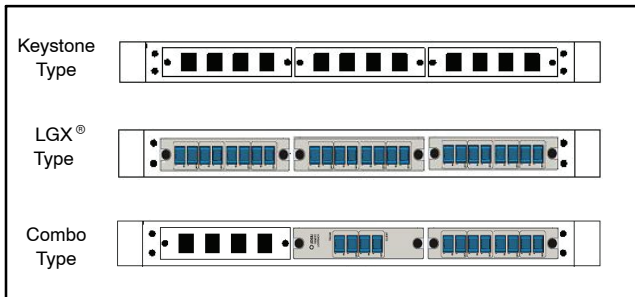

Figure 2. Various VEUP-30 Adapter Panel Configurations
The VirtualEdge (VE) VEUP-30 is a universal, LGX-compatible, interface panel used at the CPE point of demarcation. It comes equipped with three, detachable, LGX-to-Keystone adapter panels, each of which contain four Keystone-type holes for couplers. The sturdy adapter panels can be populated with a variety of couplers, such as RJ45/48 (Cat5e for Ethernet and DS1), BNC (for DS3), and SC/LC (for fiber), or any Keystone-type coupler. The coupler type and type of service terminated is determined per company practice and application. Keystone-type blanks are provided for the holes. Different types of couplers and adapter panels can be combined or mixed within the VEUP-30 panel, for flexible configurations and applications, as shown in Figure 2. A circuit identification (ID) card is provided inside a clear plastic packet, which allows installers to label each coupler position. The VEUP-30 comes equipped with the components shown in Table 1. Optional features include adapter panels, couplers, D-rings, and a front tray for additional cable management at the front of the VEUP-30.